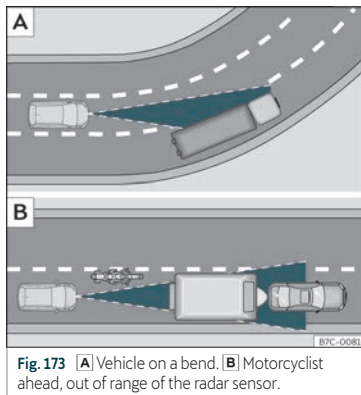

Fig. 173 [A] Vehicle on a bend. [B] Motorcyclist ahead, out of range of the radar sensor.
The ACC may not detect the vehicle in front on a curve, or may regulate the distance from vehicles in other lanes»» Fig. 173 [A].
- Vehicles that are not aligned while driving or that are outside the sensor's detection area, such as motorcycles»» Fig. 173 [B]